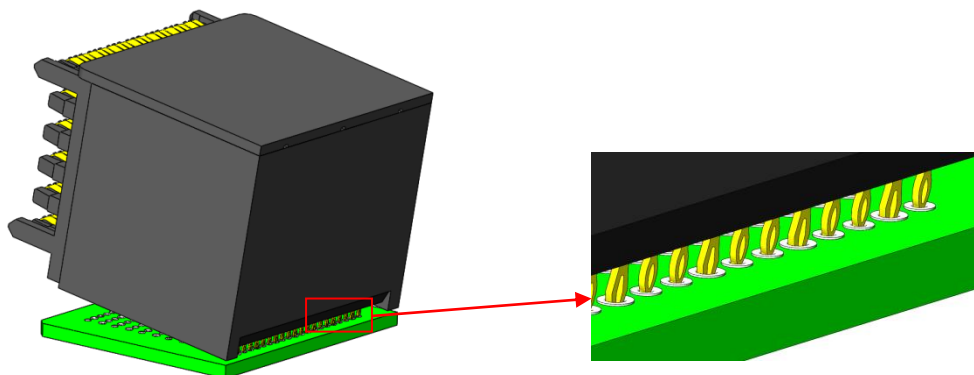

Figure 28: Last Row of EON tips Inserted Into Last Row of PCB Vias
- Begin by holding the connector at a slight angle so that the tips of the last row of press fit tails can be inserted into the last row of via holes on the PCB. Refer to figure 28.